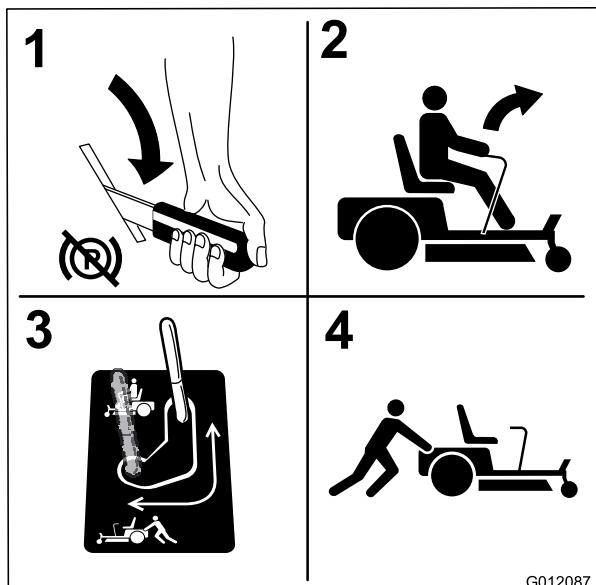

Figure 31
4. Move the bypass levers rearward and then down to lock them in place as shown in Figure 31 to disengage the wheel motors. Repeat this on each side of the machine.
Move the bypass to the position for operating the machine (Figure 31) to engage the wheel motors.